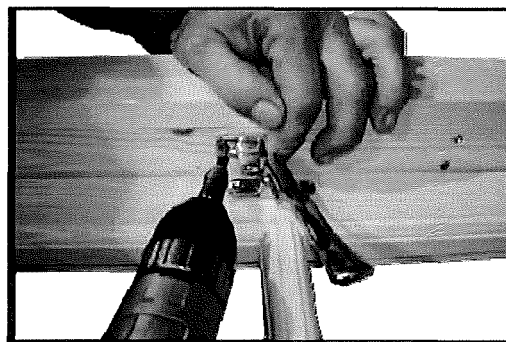

Fig A18
30. Along side one of the horizontal bars ion the window insert place the side latch on top of the draught excluder (Fig A18).
31. Use the pin to correctly place the lever and secure using 2x25mm screws for each part (Fig A18).